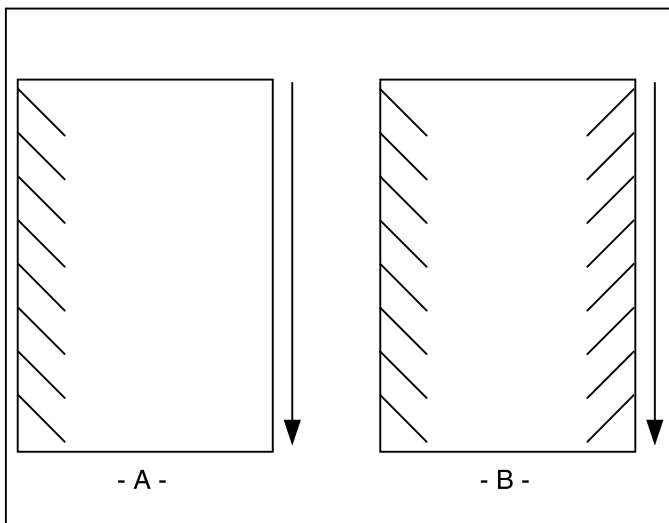

Fig. 49
5. Angled waves in the output (Figure 49 A & B).
- Check for even paper tension (Figure 49 A only)